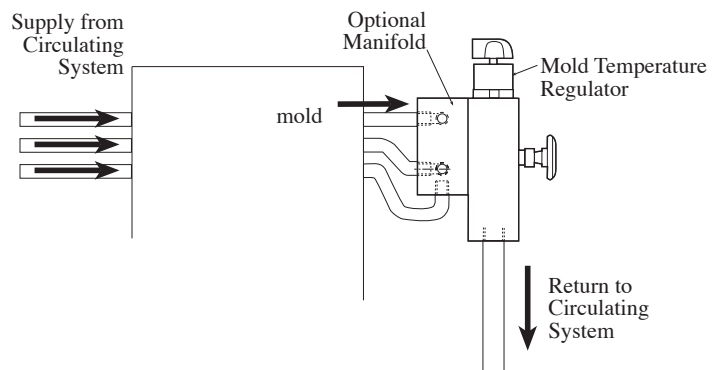

figure 2
To control multiple zones to the same temperature using a single device, connect the lines to the optional manifold of the regulator as shown in figure 2.
- Cooling water is too cold or there is not enough heat in the mold, add more circuits to the inlet using the optional manifold. See figure 2.